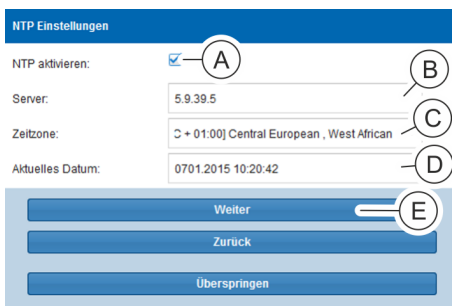

Fig. 50: "NTP settings" window
24. If required, click the 'Activate NTP' checkbox (Fig. 50/ⓐ), enter a server address (Fig. 50/ⓑ) and select a time zone (Fig. 50/ⓒ).
Alternatively, do not click the 'Activate NTP' checkbox (Fig. 50/ⓐ) and only enter the date and time (Fig. 50/ⓓ).
25. Confirm the entries by clicking the 'Continue' button (Fig. 50/ⓔ).